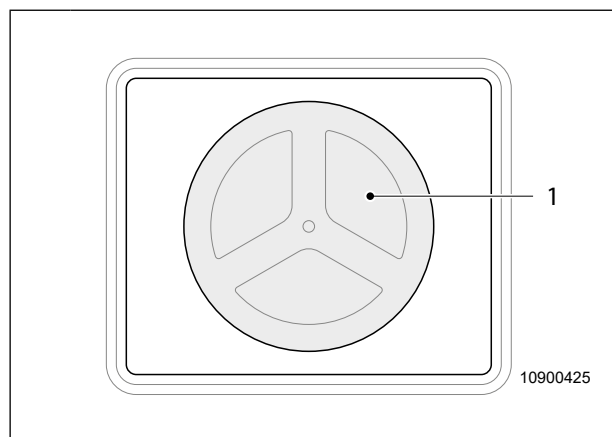

Fig. 47 Cleaning opening
The cleaning opening (Fig. 47, item 1) is used when carrying out maintenance work on or cleaning the fresh water tank. The cleaning opening is located under a cover in the rear of the vehicle.